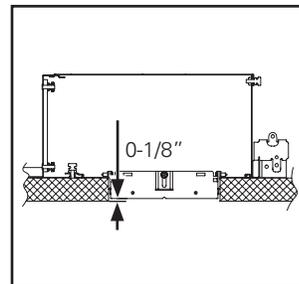

Figure 3.
- Housing platforms must be installed with edge of plaster frame collar flush to within 1/8" of bottom of the finished ceiling for proper operation (Figure 3.).